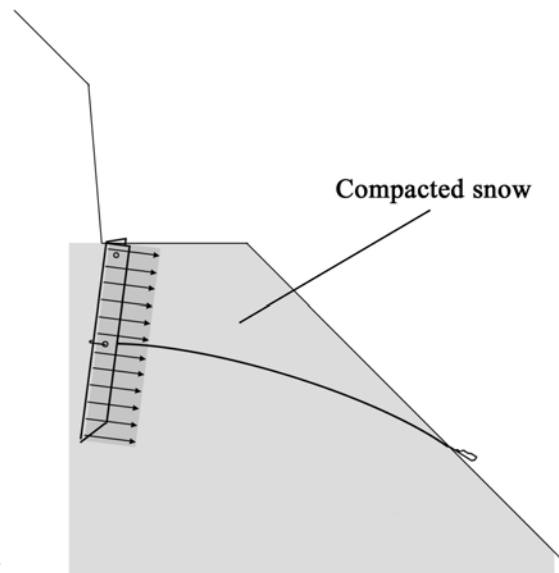

Fig 9.
7. When pulling the cable tight allow for the fact that the cable will always run through the snow in a curve, Fig 9.